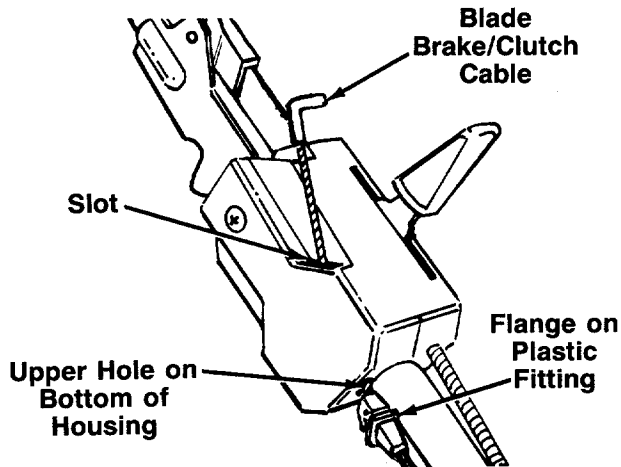

FIGURE 4.
- The blade brake/clutch cable is the cable which has a "L" fitting on the loose end, and is attached to the blade brake/clutch underneath the deck. Route the blade brake/clutch cable inside the handle mount bracket and under the lower handle. Place end of cable into the upper hole on the bottom of the control housing, and through the slot on the side of the housing as shown. The angle of the flange on the plastic fitting must be positioned downward as shown in figure 4. Be careful not to bend or kink the cable.